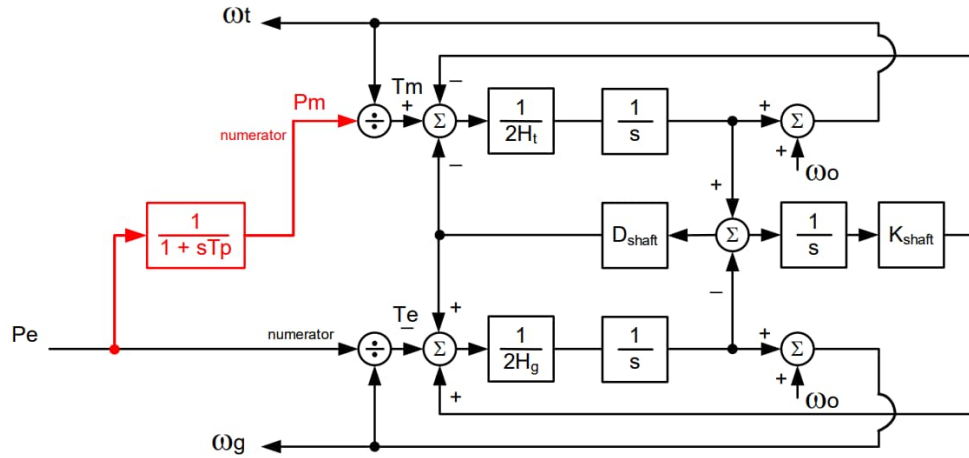

Figure 2 WTGT_B model [1].
1. WTGT_B- which is the emulation of the drive-train oscillations (see Figure 2). This model is used for type 3 and type 4 WTG plants. For type 4, the only input is the electrical power (P_e) of the generator and mechanical power (P_m) is simply taken to be a filtered value of P_e .